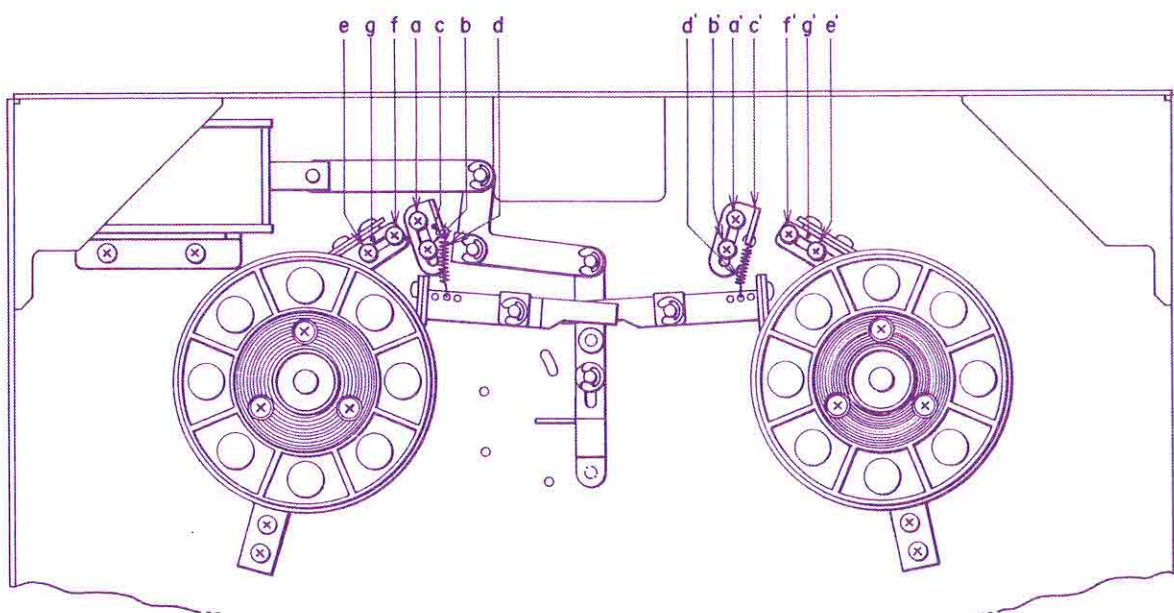

Fig. 10
2) Brake tension adjustment methods are as follows: (Refer to Fig. 10)